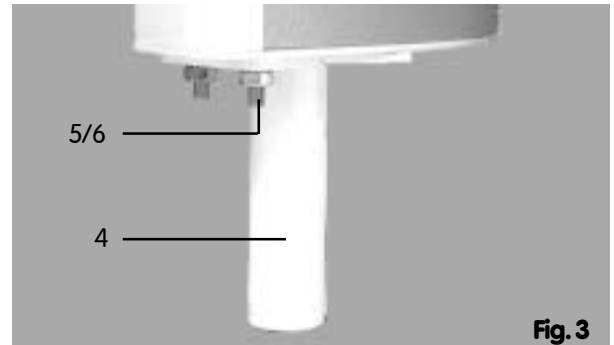

Fig. 3
From the accessory pack, take the stand foot (4), two M10 nuts (5) and washers (6), and assemble the foot as shown in Fig. 3.